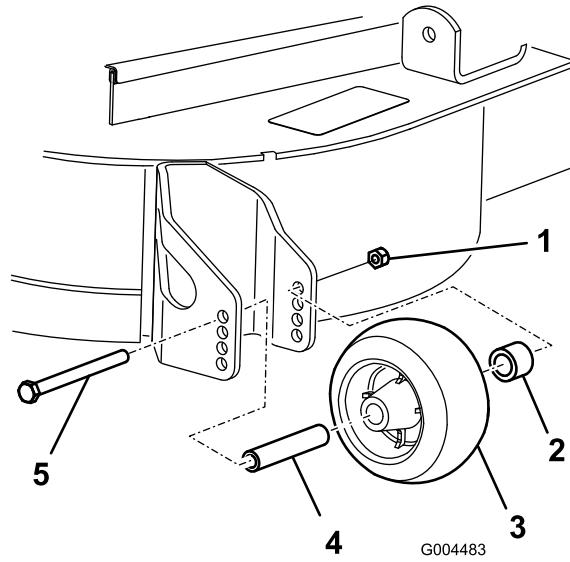

Figure 25
3. After adjusting the height-of-cut, adjust the rollers by removing the flange nut, bushing, spacer, and bolt (Figure 25).
5. Install the flange nut, bushing, spacer, and bolt. Torque to 40-45 ft-lb (54-61 N·m) (Figure 25).